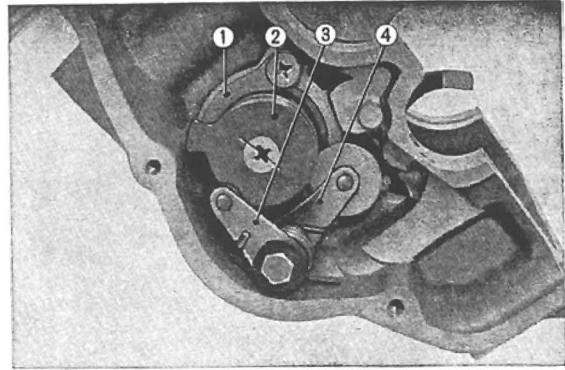

Fig. 3.115 Removing the gear shift drum
- ① Neutral stopper
- ② Shift drum stopper
- ③ Ball bearing
5. Remove the shift fork guide pin clip and then pull out the guide pin. (Fig. 3.115)